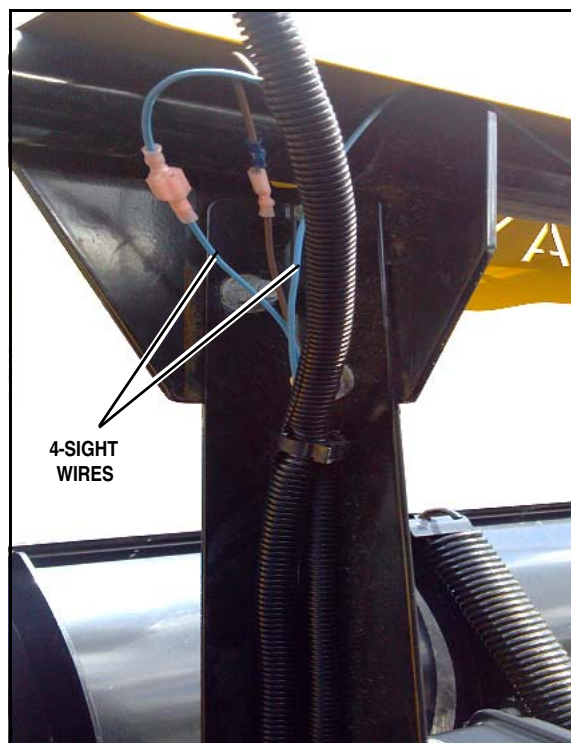

Figure 3
6. Locate the brown and light blue wires with male push-on terminals within the driver side (DS) plow light harness. Locate the light blue wire with a male terminal within the passenger side (PS) plow light harness.
7. Connect the female terminals from the 4-Sight harness to the matching colored wires on both the driver (DS) and passenger (PS) plow light harness.
8. Route the 4-Sight wire down Driver side lightbar upright, securing the wires within the rose bud clips that secure the plow light harness to the lightbar (See Figure 3.).